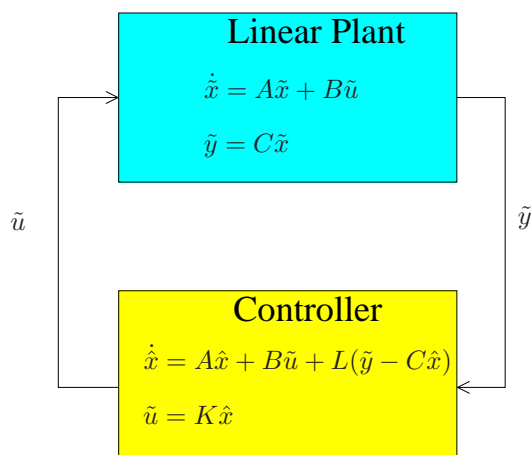

Figure 2: Block Diagram of closed-loop linearized system
- (d) Assuming that we are using an observer with a gain matrix L , determine the closed-loop state-space model of the system shown in Figure 2, assuming that the combined state of the closed-loop system is $[\hat{x}^T \ \tilde{x}^T]^T$ and the output is \tilde{y} . Do this symbolically in terms of the variables A, B, C, K and L . Also, compute symbolically the transfer function of the “compensator” (observer+controller) from its input \tilde{y} to its output \tilde{u} . Note that since the design of the observer gain L is tedious, you will design the observer later in Section 4 with the aid of MATLAB.